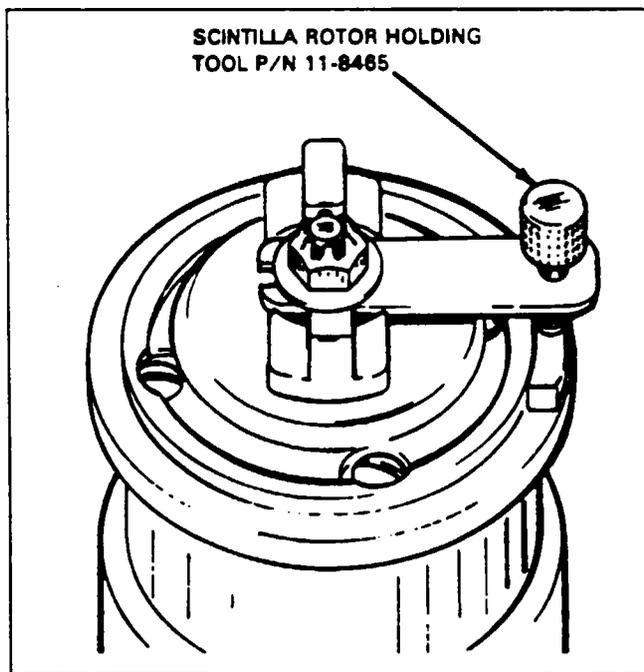

Figure 74-3. Rotor Holding Tool
- A. Loosen the nut securing the drive plate to the magneto shaft sufficiently in order to install the Scintilla 11-8465 Rotor Holding Tool under the nut and flat washer as shown in Figure 74-3. Tighten the nut securely.